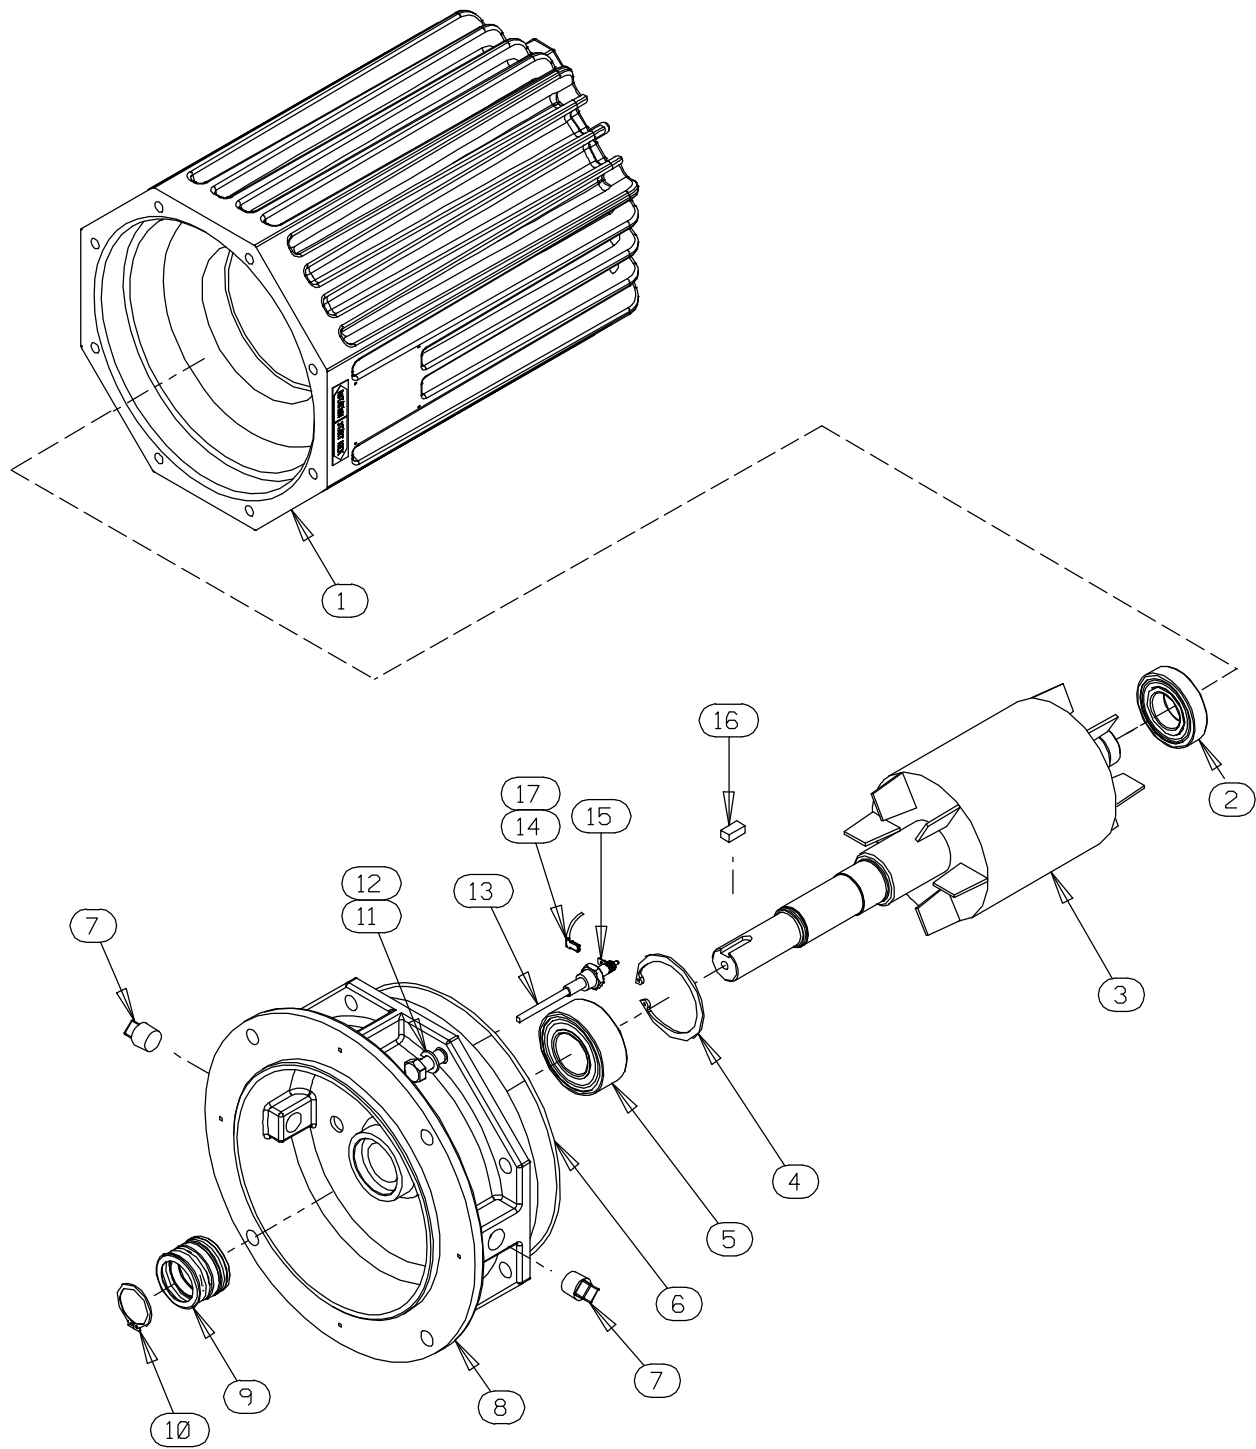

Figure E-2. 47111-810, -811, -812 and -855 Motor Assemblies
#### (Figure E-2)
To remove the impeller, use two thin-bladed screwdrivers positioned 180° apart to pry on the back of the impeller and “walk” the impeller off the shaft. Use increasingly larger screwdrivers (or wedges) as necessary. After the impeller comes free of the shaft, retain the impeller key (16, Figure E-2).
*An alternate method of removing the stationary element is to remove the screws (17) securing the seal plate (15) to the motor assembly (7). Pry the assembled seal plate and stationary element off the shoulder of the intermediate (8, Figure E-2). Remove the O-ring (6) and press the stationary element and seat out of the seal plate from the back side.*
(Figures E-2 and E-3)
Inspect the rotor shaft (3, Figure E-2) for damaged threads, scoring, or nicks. Remove nicks and burrs with a fine file or hand honing stone to restore original contours. If the shaft is bent or severely damaged, the rotor and shaft must be replaced as an assembly (see **MOTOR DISASSEMBLY**).